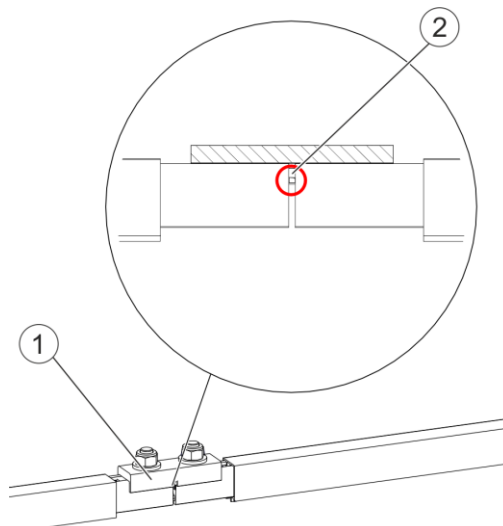

Fig. 77: Connector with notch (Pos. 2) – slid onto both conductor bar ends
- Slide the conductor bar of the second end of the rail up to the notch (Pos. 2) of the connector (see Fig. 77).